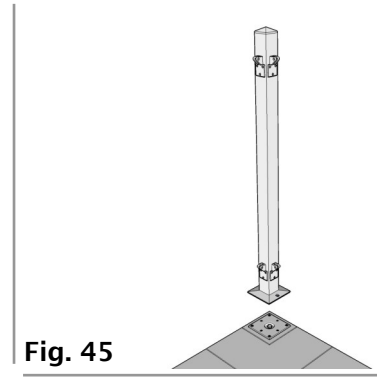

Fig. 45
**21.** Start with an End Post or Corner Post by aligning the base of the Post with the Mounting Plate (L) (Fig. 45).